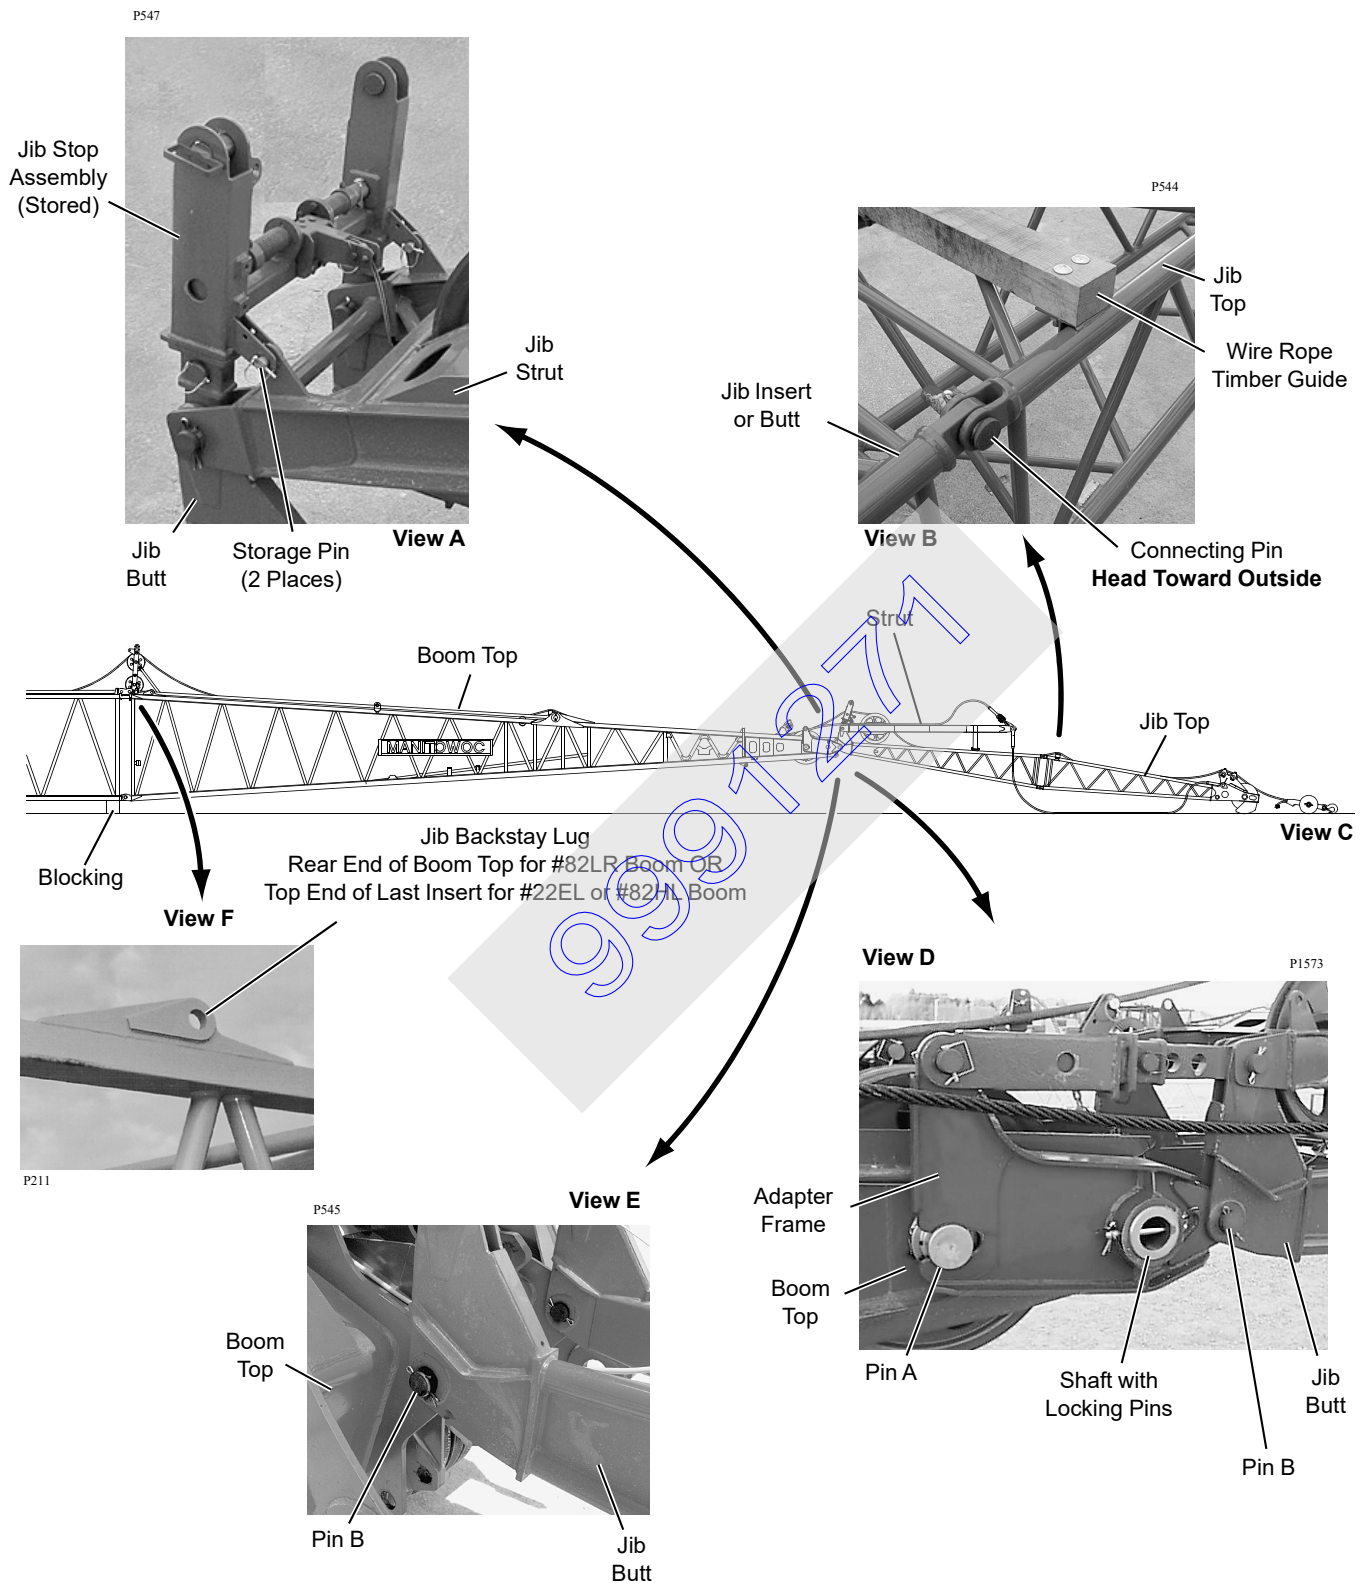

FIGURE 4-44
**NOTE:** The jib strut and jib stop assembly are shipped in the stored position on the jib butt as shown in Figure 4-44, View A.
See Figure 4-44 for the following procedure.
1. Remove storage pins (Figure 4-44, View A), and lower jib stop assembly to boom top.
- c. Connect cable extension to control cable from winch with shackle (A).